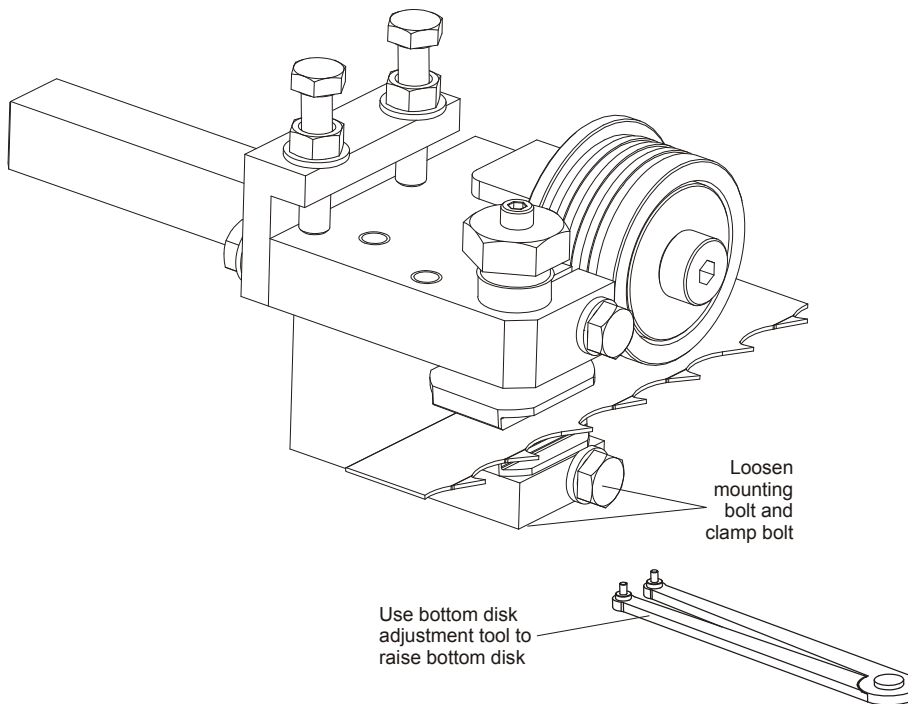

FIG. 3-1
**See Figure 3-1.** To adjust the disks up, loosen the bottom guide disk mounting bolt and clamp bolt. Use the provided adjustment tool. to raise bottom disk Retighten the bottom disk mounting bolt and clamp bolt. See Section: Blade Disk Adjustment